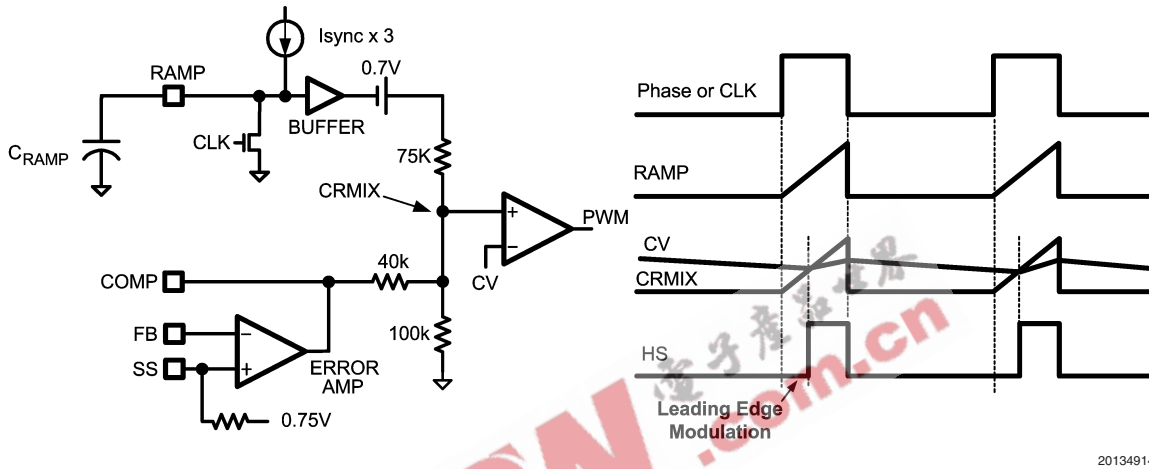

FIGURE 4. Synchronization and Leading Edge Modulation
the capacitor connected to the RAMP pin as shown in *Figure 4*. The ramp signal and the output of the error amplifier (COMP) are combined through a resistor network to produce a voltage ramp with variable dc offset (CRMIX in *Figure 4*). The high side MOSFET which drives the HS pin is held in the off state at the beginning of the phase signal. When the voltage of CRMIX exceeds the internal threshold voltage CV, the PWM comparator turns on the high side MOSFET. The HS pin rises and the MOSFET delivers current from the main converter phase signal to the output of the auxiliary regulator. The PWM cycle ends when the phase signal falls and power is no longer supplied to the drain of the high side MOSFET.
of the sense amplifier is nominally equal to 16. The current sense output signal is shifted by 1.27V to produce the internal CV reference signal. The CV signal is applied to the negative input of the PWM comparator and compared to CRMIX as illustrated in *Figure 4*. Thus the PWM threshold of the voltage mode controller (CV) varies with the instantaneous inductor current.
Current limiting is implemented through the current sense amplifier as illustrated in *Figure 6*. The current sense amplifier monitors the inductor current that flows through a sense resistor connected between CS and VOUT. The voltage gain of the current sense amplifier is nominally equal to 16. The output of current sense signal is shifted by 1.27V to produce the internal CV reference signal. The CV signal drives a current limit amplifier with nominal transconductance of 16mA/V. The current limit amplifier has an open drain (sink only) output stage and its output pin CO is typically connected to the COMP pin. During normal operation, the voltage error amplifier controls the COMP pin voltage which adjusts the PWM duty cycle by varying the internal CRMIX level (*Figure 4*). However, when the current sense input voltage V_{CL} exceeds 45mV, the current limit amplifier pulls down on COMP through the CO pin. Pulling COMP low reduces the CRMIX signal below the CV signal level. When CRMIX does not exceed the CV signal, the PWM comparator inhibits output pulses until the CRMIX signal increases to a normal operating level.
Both drivers are controlled by the PWM logic signal from the PWM latch. When the phase signal is low, the outputs are held in the reset state with the low side MOSFET on and the high side MOSFET off. When the phase signal switches to the high state, the PWM latch reset signal is de-asserted. The high side MOSFET remains off until the PWM latch is set by the PWM comparator ($CRMIX > CV$ as shown in *Figure 4*). When the PWM latch is set, the LO driver turns off the low side MOSFET and the HO driver turns on the high side MOSFET. The high side pulse is terminated when the phase signal falls and SYNC input comparator resets the PWM latch.